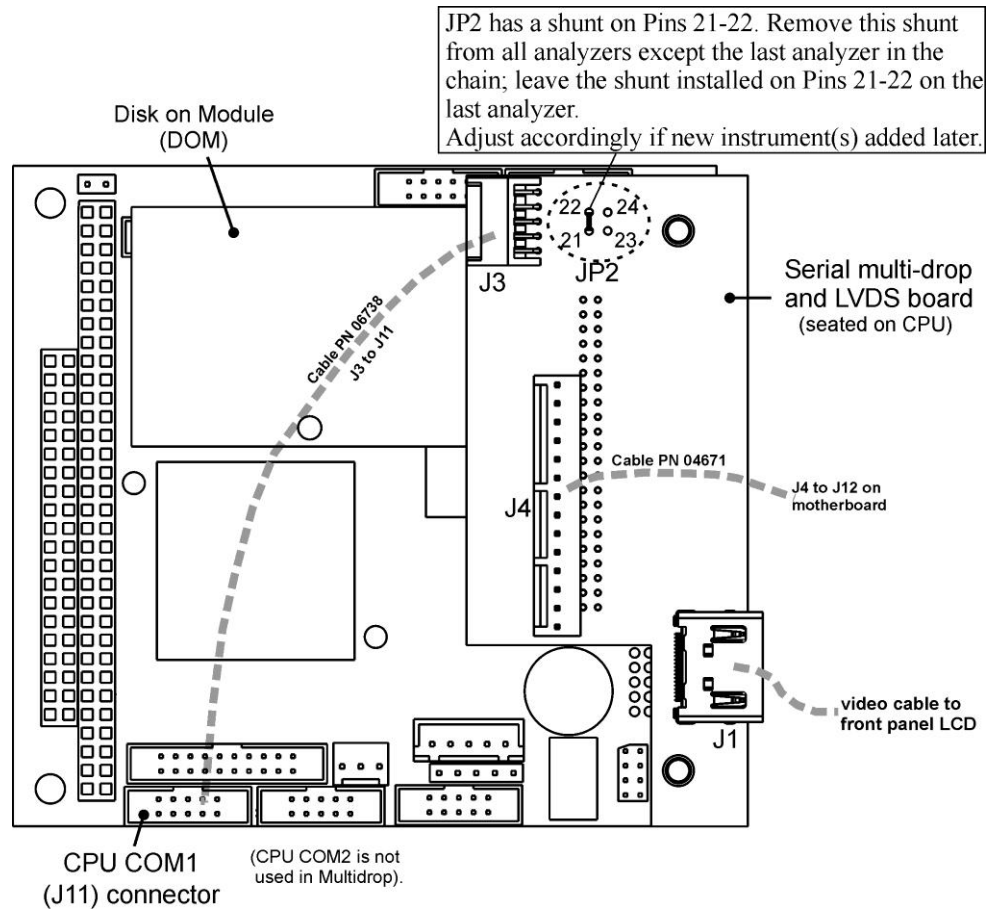

Figure 3-13: Jumper and Cables for Multidrop Mode
In each instrument with the Multidrop option there is a shunt that jumpers two pins on the serial Multidrop and LVDS printed circuit assembly (PCA), as shown in Figure 3-13. This shunt must be removed from all instruments except that designated as last in the multidrop chain, which must remain terminated. This requires powering off and opening each instrument and making the following adjustments:
3. Check that the following cable connections are made in *all* instruments (again refer to Figure 3-13):